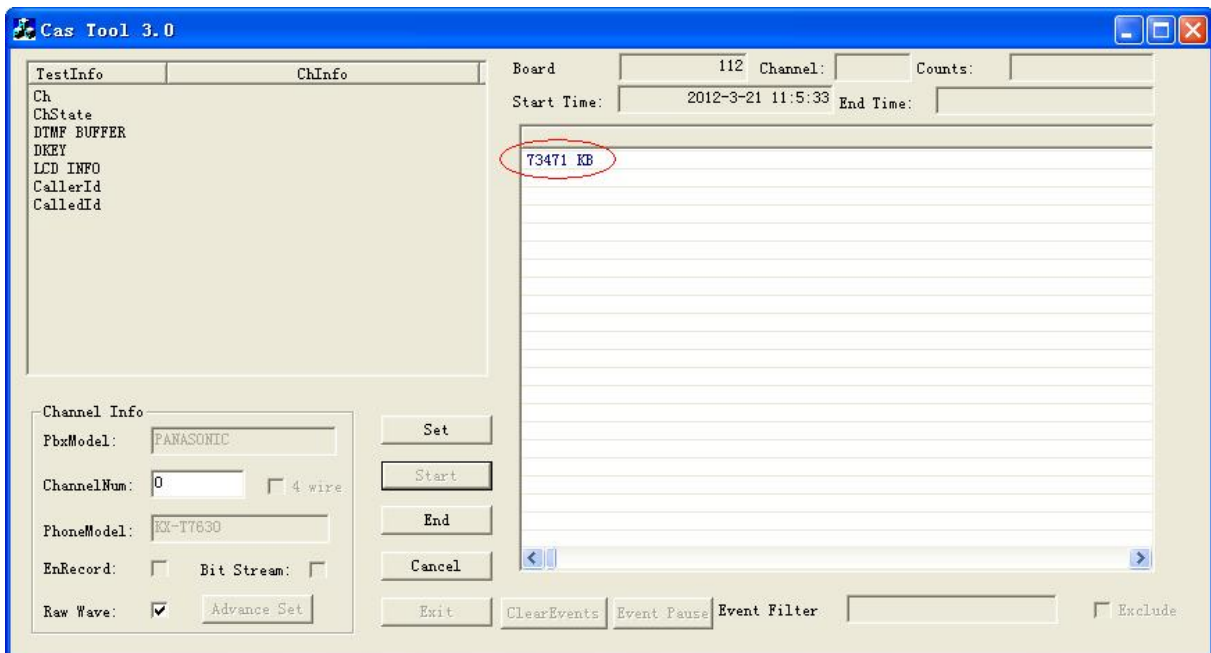

Figure 2-26
Step 6: Then the right area shows the size of the currently recorded data file as shown in Figure 2-26. Normally, the sampling rate for B-type boards is about 10M/S while that for A-type boards depends on parameter settings.